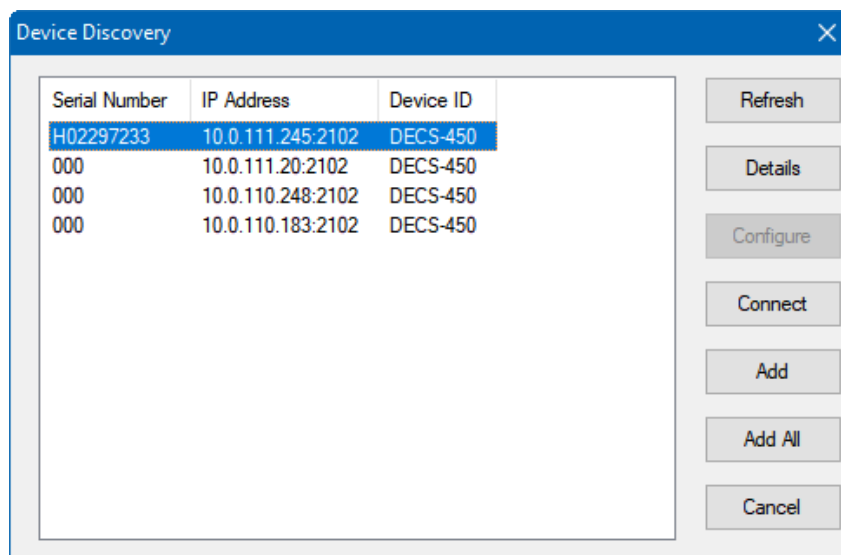

Figure 20-7. Device Discovery Window
4. If you don't know the IP address, you can perform a scan to search for all connected devices by clicking the *Ethernet* button in the Device Discovery box. After the scan is complete, a window containing the connected devices will be displayed. (Figure 20-7)